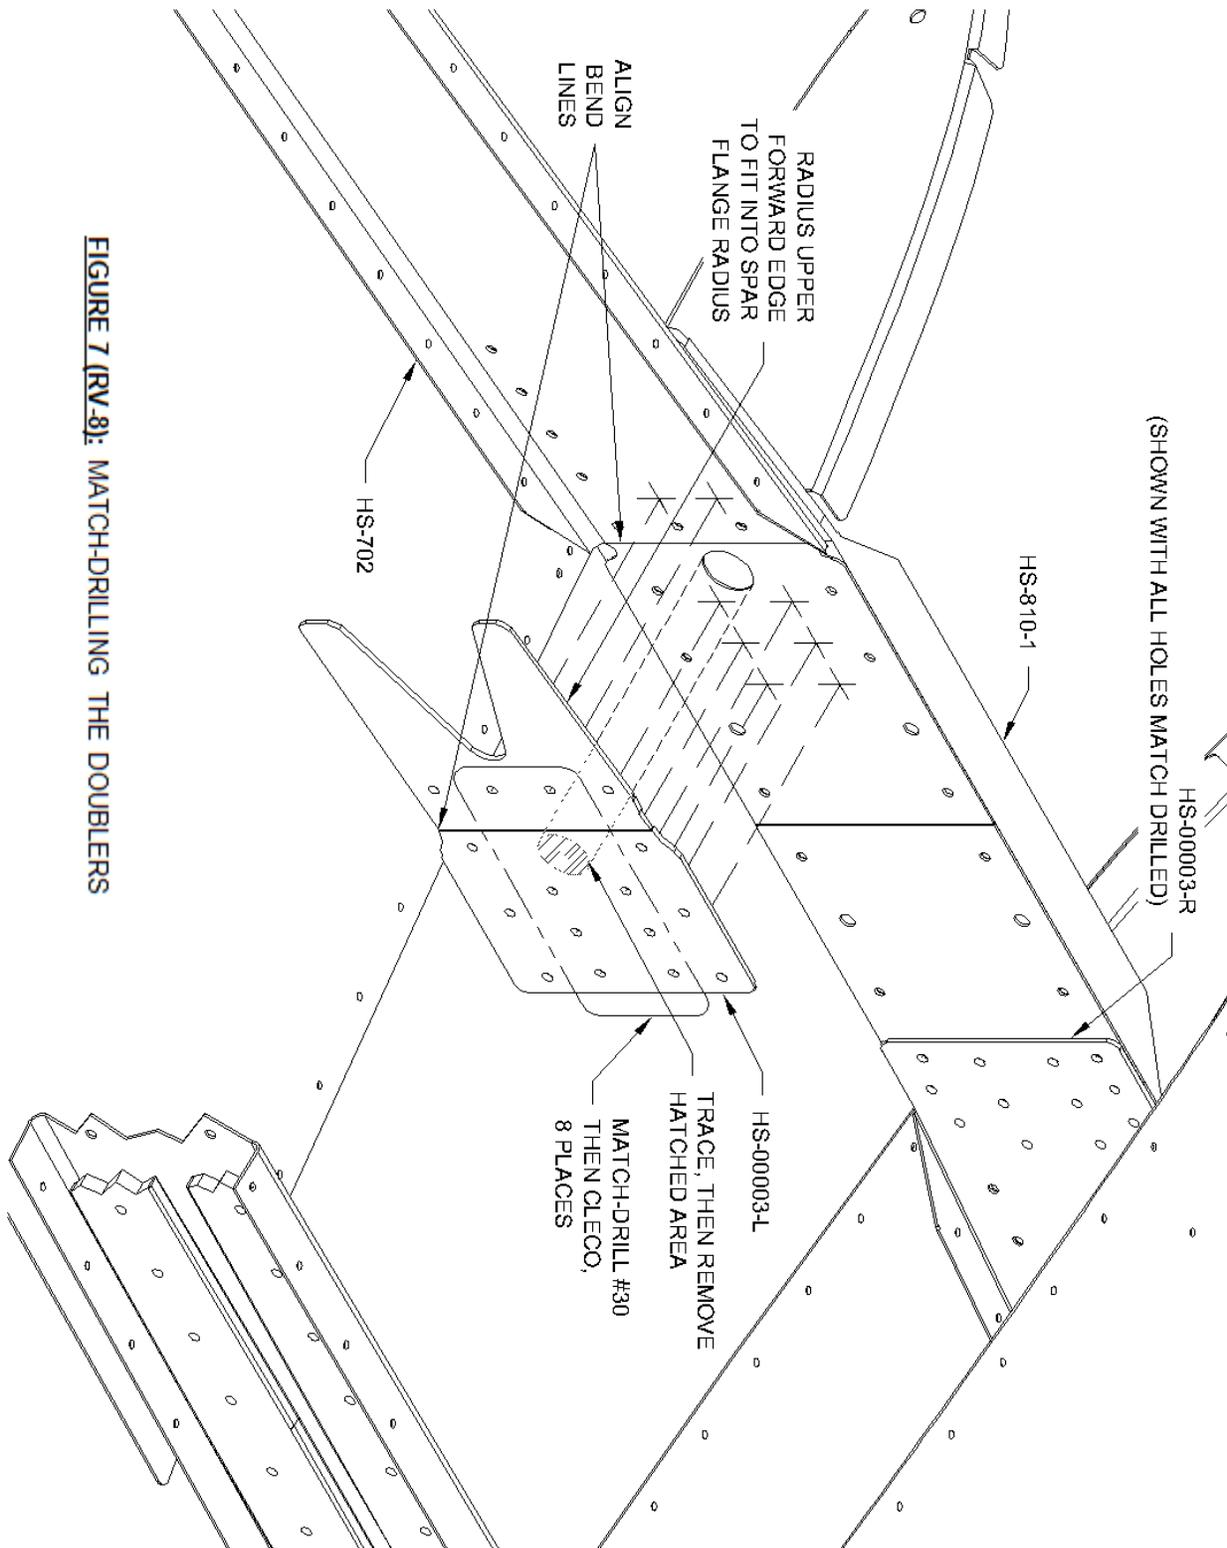

FIGURE 7 (RV-8): MATCH-DRILLING THE DOUBLERS
Step 16: Radius the edge noted in Figure 7 to fit against the upper radius of the front spar.
Match-Drill #30 then cleco the six (for RV-6,7) or eight (for RV-8) center holes in each doubler indicated in Figure 7 into the front spars then remove the clamps.
Match-Drill #30 the doublers using the two spar web hole locations shown in Fig 7.